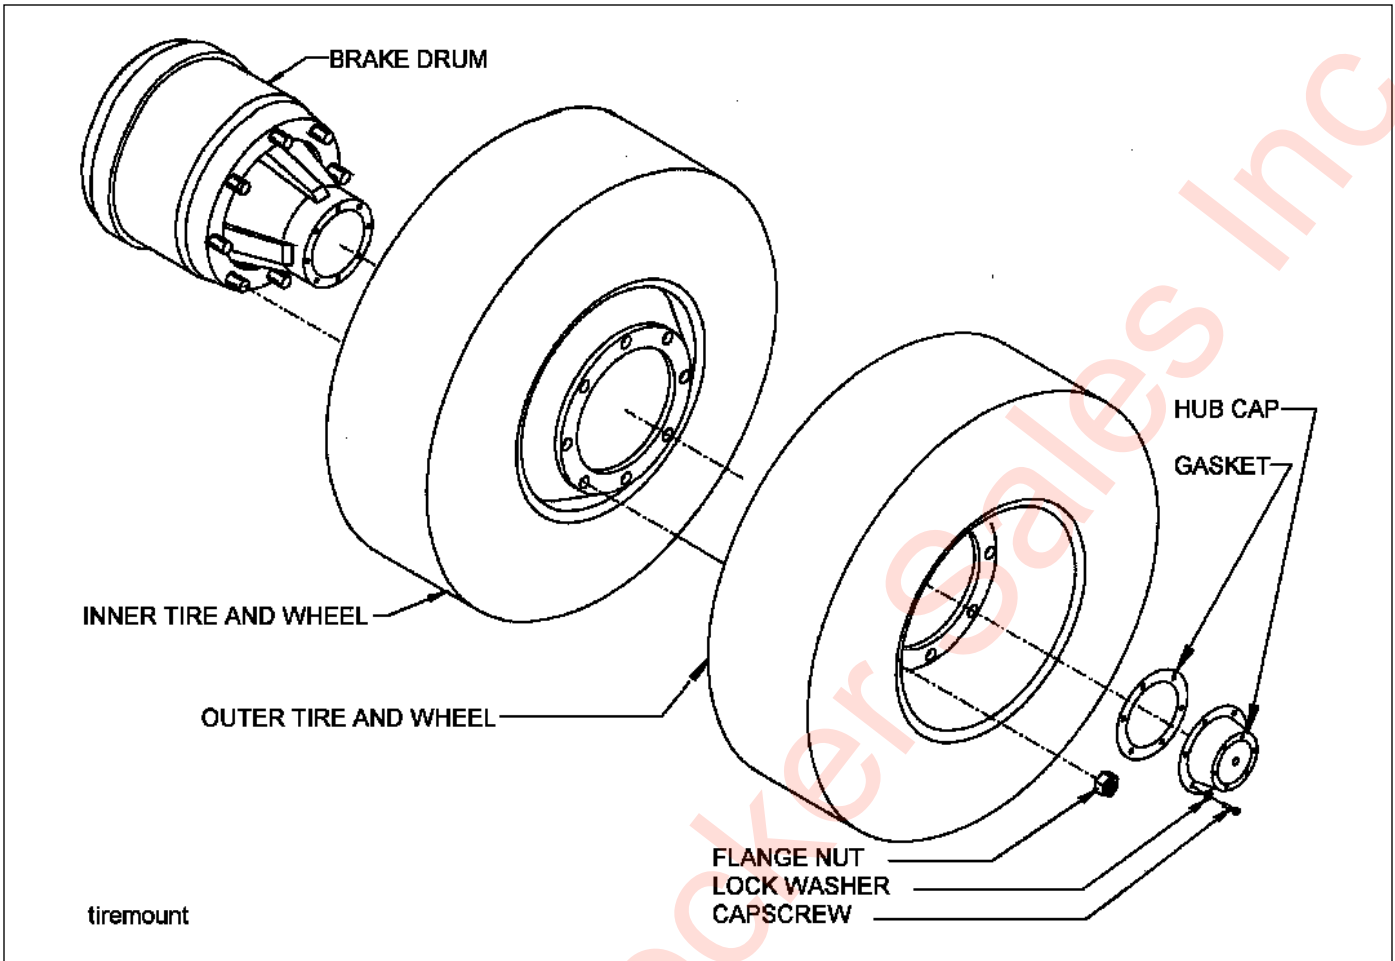

Figure 4-16: Mounting Tires and Wheels
6. For aluminum wheels, often a separator plate is used (See Figure 4-16.) The separator plate is approximately .040" thick. It is placed between the drum and the wheel, or between two wheels in dual applications. The separator plate is recommended in severe applications where corrosion and/or wear have been identified. Aluminum wheels benefit from use of the separator plate. Care must be exercised in centering the separator plate prior to torquing, and stud length must be checked as each plate is approximately .040" thick.
1. Make sure that all mounting surfaces are clean and free of rust, dirt or paint. A wire brush may be used to clean these surfaces **(See Figure 4-16.)**
Improper tightening sequence	Follow proper tightening sequence (See Figure 4-16. )